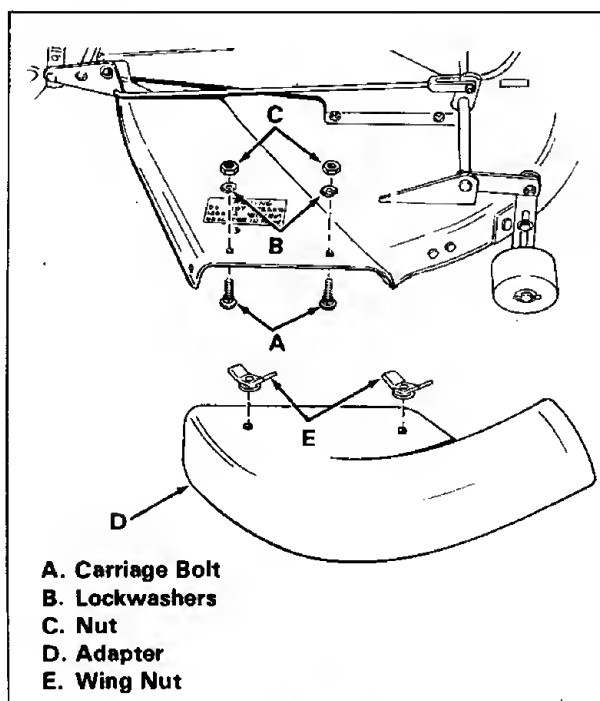

Figure 7
11. Use the two original sets of lockwashers and nuts (items B and C, figure 7), noted in step 10, to install the two 1 inch (25.4 mm) long carriage bolts (item A) provided with the grass catcher attachment as shown. The adapter (item D) is then slipped on the bolts over the hex nuts and held with the wing nuts (item E).